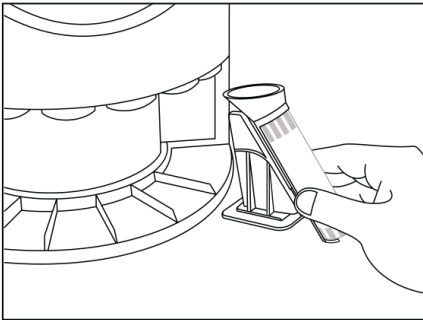

Figure 2 - Installing coin tube
3. Attach the coin tubes to the DT100 by slowly sliding each tube into the proper slot in the base of the machine as shown in Figures 2 and 3.